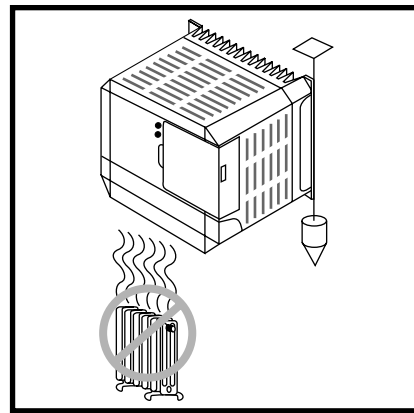

Figure 4 Mounting Precautions
- ❑ Mount the drive controller vertically, as shown in Figure 4. Avoid placing near any heat sources.